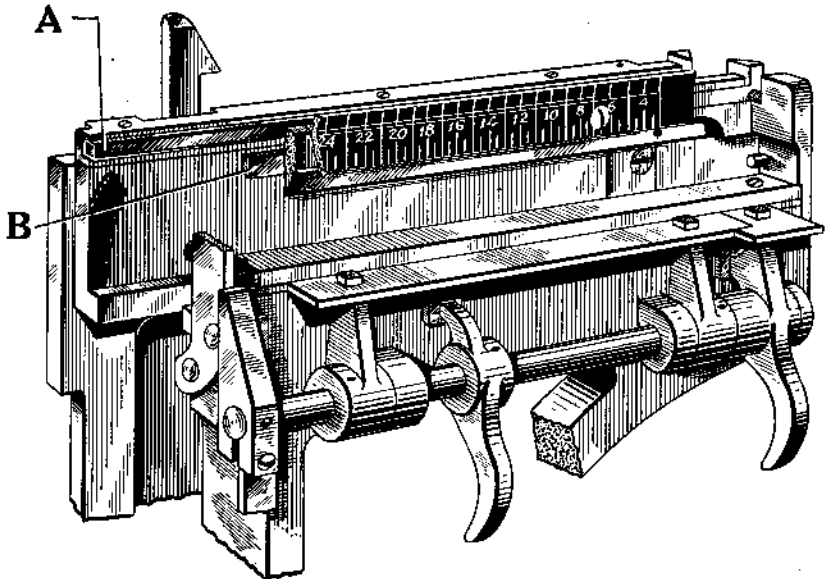

FIG. 3.—Assembling Elevator Showing Spring Rails A and B.
**Spring-Loaded Rails A, B and C** have been provided in the assembling elevator and the first elevator front jaw, as shown in Figs. 3 and 4. These rails press gently against the matrices to hold them in position. They are so adjusted as to hold the matrix line somewhat tighter on the left end in the